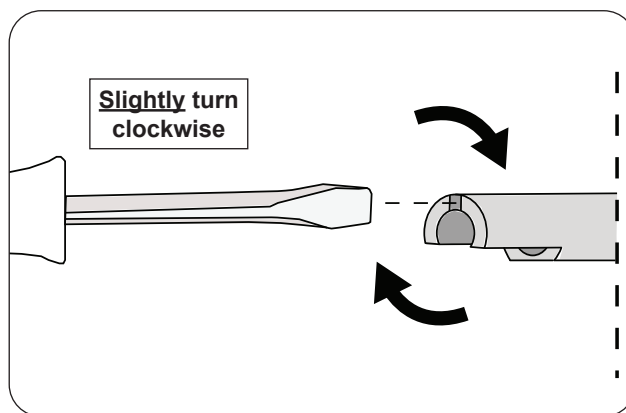

Fig. 50-2 Stem adjustment
2. Insert a flathead screwdriver into the split portion of the stem and **GENTLY** turn the screwdriver clockwise. **Be cautious!** Only a slight turn is needed as the stem is flexible. See Fig. 50-2.